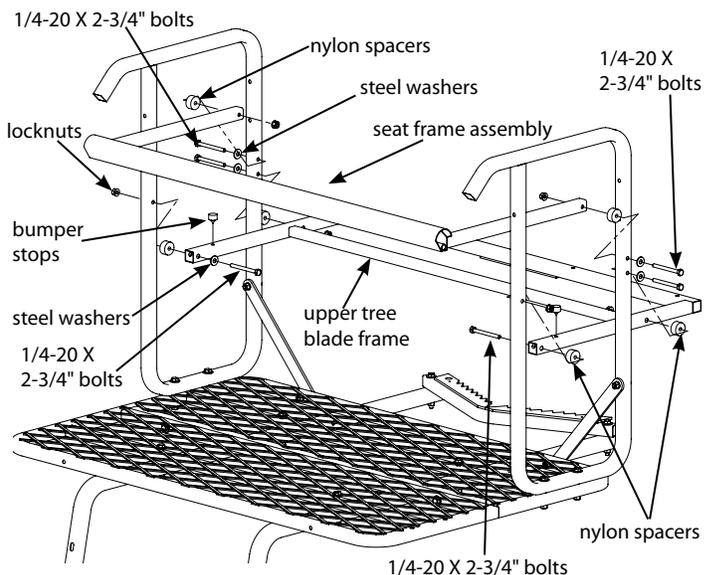

Figure 4
6. a. Attach the upper, large tree blade frame (10323) to the inside of side seat support loops using (4) provided 1/4-20 x 2-3/4" bolts, locknuts, steel washers and nylon spacers. **SEE FIGURE 4.** Blade should be on bottom side, towards platform.
b. Press (2) provided rubber bumper stops (48679) into the top side holes of tree blade frame. **SEE FIGURE 4.** Blade should be on bottom side, towards the platform.
7. Attach the seat frame assembly (10332) to the inside of side seat support loops using (2) provided 1/4-20 x 2-3/4" bolts, locknuts, steel washers and nylon spacers. **SEE FIGURE 4.**
NOTE: The mesh seat is not shown in FIGURE 4 for ease of assembly view although it is already factory assembled to the metal seat frame. Make sure the metal seat frame is oriented onto the ladder assembly correctly with the "channel" portion facing downward, towards the foot platform. Mesh seat/backrest should temporarily lay on top of seat until its assembly later in assembly instructions.